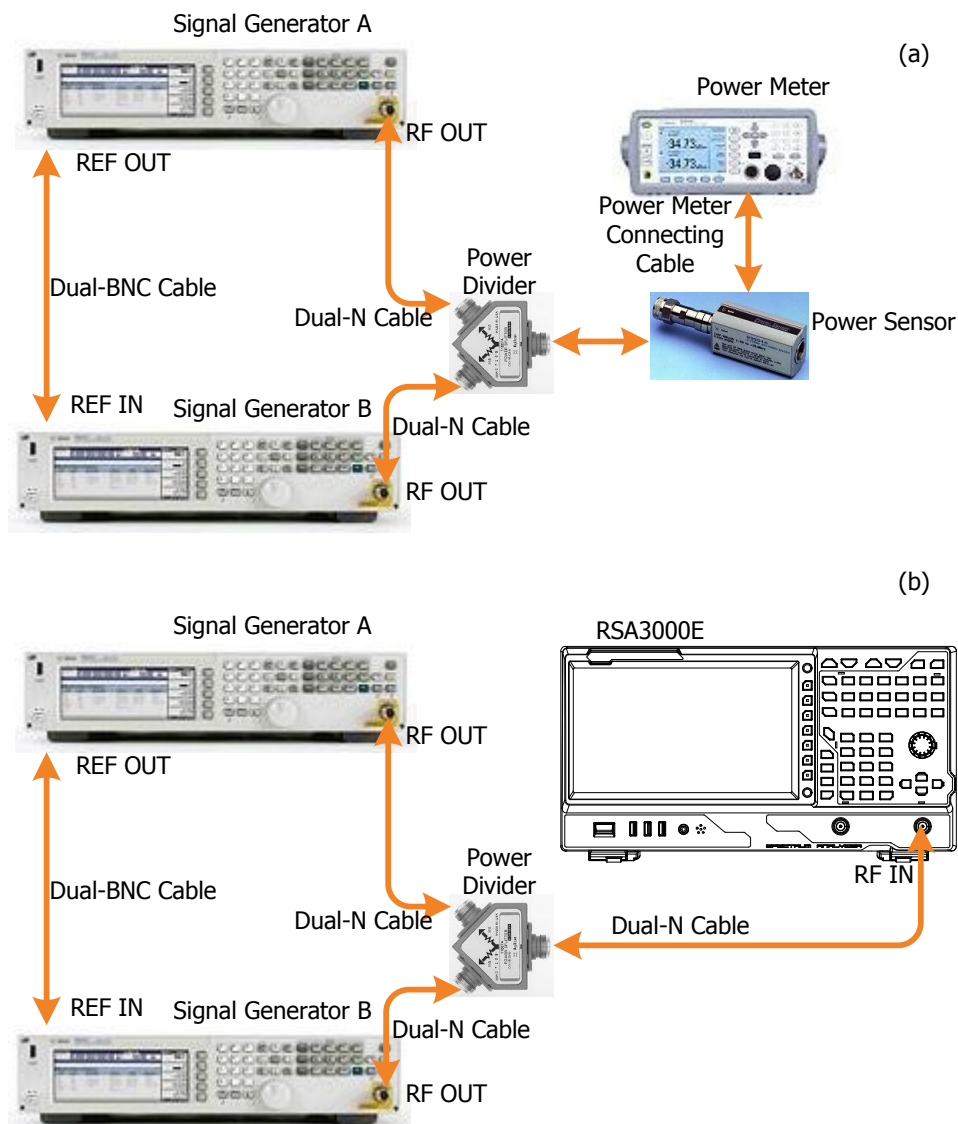

Figure 2-7 1 dB Gain Compression Test Connection Diagram
- Synchronize the two signal generators. Connect the outputs of the two signal generators with the power divider. Then connect the power divider with the power sensor, as shown in Figure 2-7 (a).